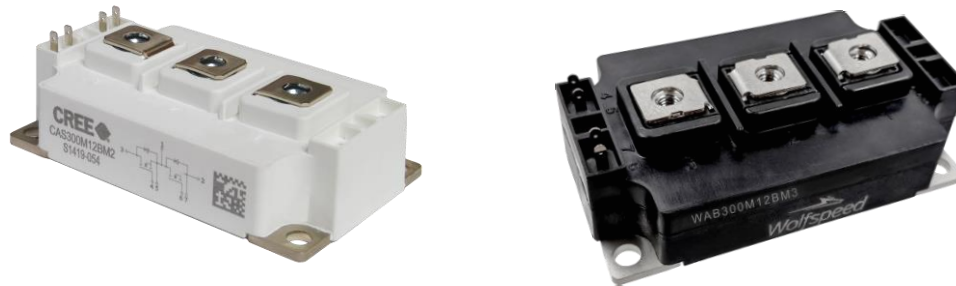

Figure 1. Example images of Wolfspeed 62mm BM Modules.
This document describes in detail a clamped inductive load (CIL) test fixture designed to accurately measure the voltage and current waveforms of a Wolfspeed 62mm power module, shown above in Figure 1, under an inductive load switching event. This enables the calculation of switching loss energies under precise test conditions to dynamically evaluate the module and facilitate in-module comparisons and power electronic system design. During a CIL switching event, the voltage across and the current through a switch position are simultaneously present. Multiplying these two waveforms point by point results in a time-domain function of the instantaneous power in units of Watts (W). The instantaneous power has large peaks two times per switching period at the turn-on and turn-off events. The instantaneous power can then be integrated using built-in oscilloscope MATH tools or waveform data and post processing to determine the total energy lost in Joules (J) during a given switching event.